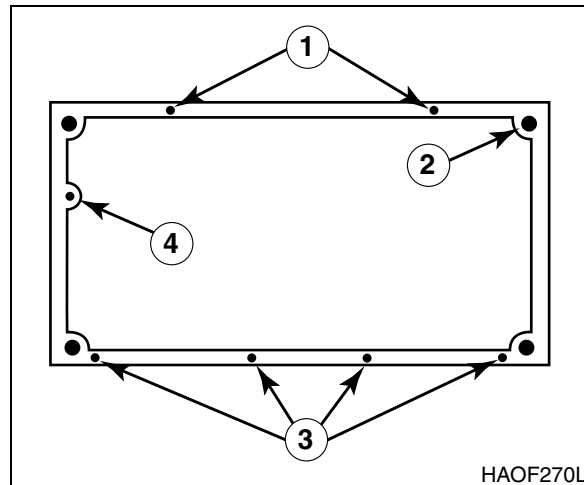

Figure 9
3. Install four mounting nuts on four corners of cab floor (2, Figure 9).
4. Install four hex bolts (3, Figure 9) in door side of cab floor.
5. Install two hex bolts (1, Figure 9) in right side of cab floor and one bolt (4) in front of cab floor.